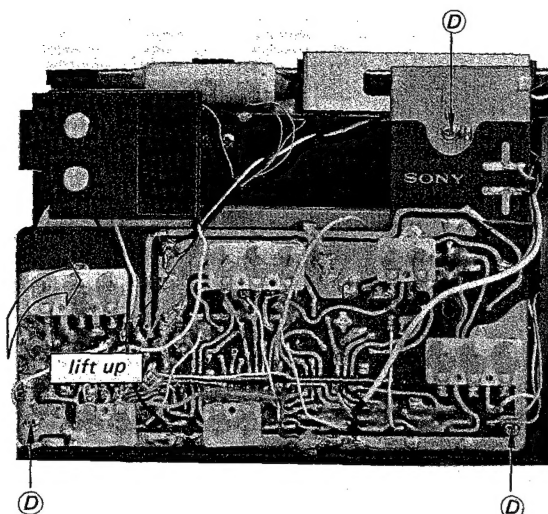

Fig. 2-5 CP circuit board removal, steps 3 and 5
3. Remove the three screws labeled **(D)** in Fig. 2-5.
5. Lift up the CP circuit board as shown by the arrow in Fig. 2-5.